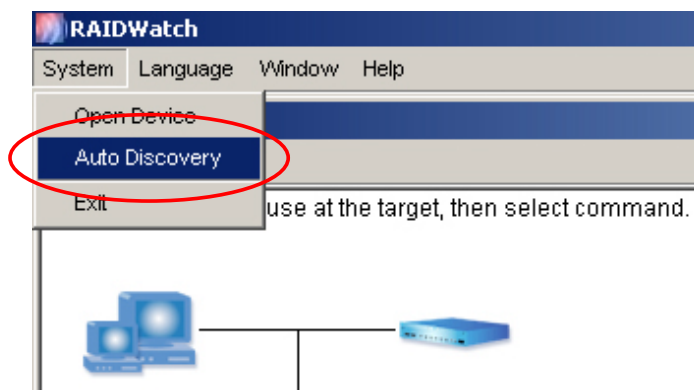

Figure 6-8: Start Auto Discovery Function
- Step 5.** If you like the system to search the available RAID systems again, pull down the **System** command menu and select **Auto Discovery**. (See **Figure 6-8**) The new search result will be showing in the Agent List Window.